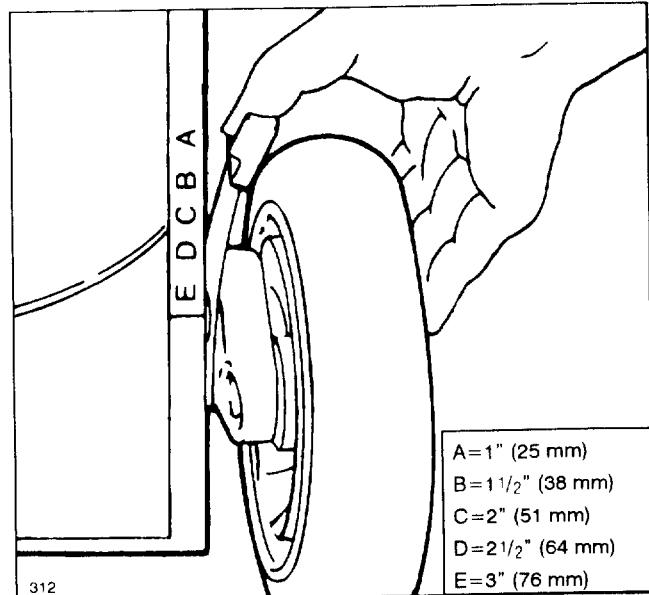

Figure 12
Five letters cast into the housing represent the height-of-cut settings (Fig. 12).
2. For easier adjustment, lift housing up so wheel is off ground. **Do not put fingers under housing when lifting.** Squeeze adjusting lever toward wheel and move to desired setting (Fig. 12). Assure pin on adjusting lever engages notch in housing. Adjust all wheels to the same setting.